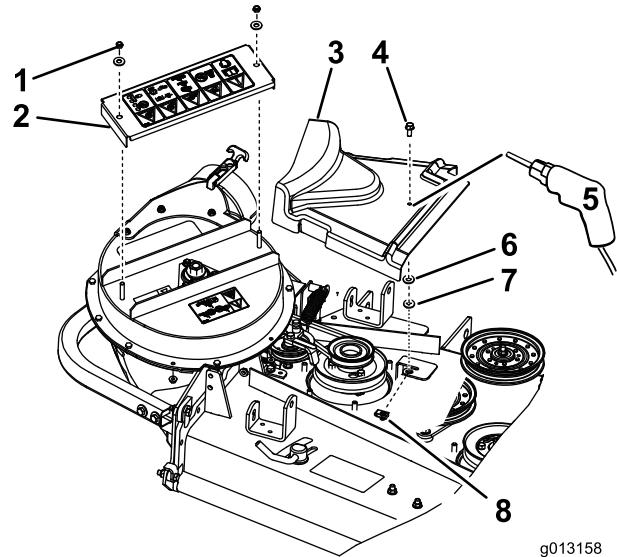

Figure 2
1. Remove the existing blower cover (Figure 2). Save the hardware.
1. Remove the existing belt cover (Figure 2). Save all existing hardware
3. Drill a 11/32 inch diameter hole where the existing latch in the belt cover was installed (Figure 2).
4. Install the bolt (5/16 x 5/8 inch) into the cover and secure it to the belt cover with a washer (5/16 inch) and push nut (5/16 inch) (Figure 2).
5. Install the belt cover and tighten the bolt (5/16 x 5/8 inch) (Figure 2).
6. Install the U-nut into the belt cover bracket (Figure 2).
7. Install the new blower cover (Figure 2).